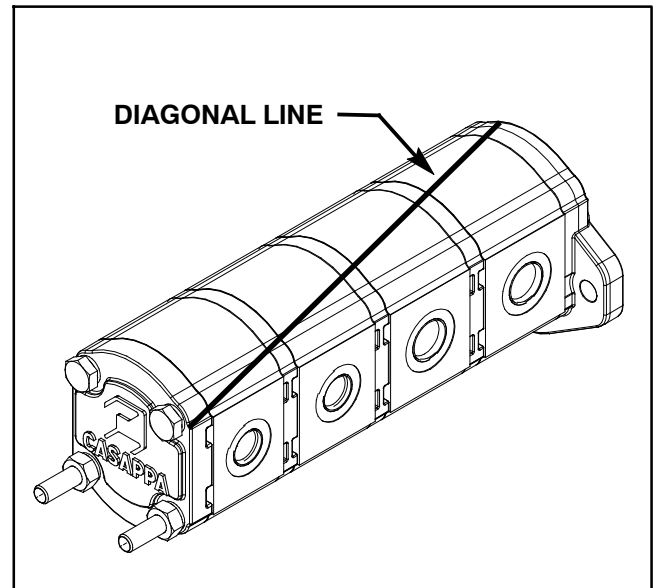

Figure 66
2. Use a marker to make a **diagonal** line across the gear pump for assembly purposes (Fig. 66).